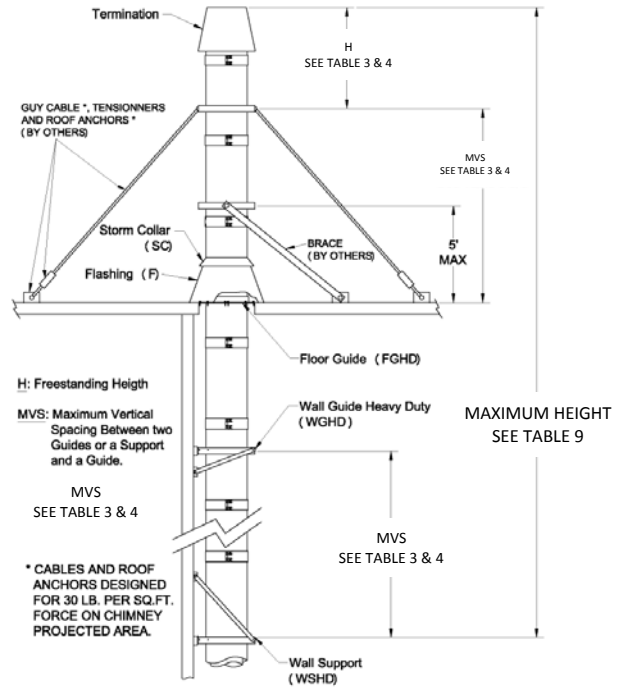

Figure 28 - Height with rigid bracing or guying option
1. Proper guying and bracing is essential for part of the vent that extends above the roof or parapet wall. The vent at this point is subject to wind conditions and needs special attention for proper stabilization. (See **Figure 28**)
Supports can be used in different combinations to secure the vent in place. See Figure 28 and 28a for typical support and guide locations.